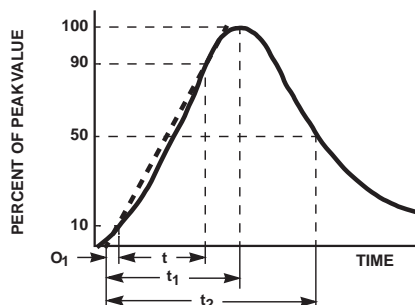

FIGURE 2. PEAK PULSE CURRENT TEST WAVEFORM FOR CLAMPING VOLTAGE
2. Direct discharge to device terminals (IEC preferred test method). See figure 2.